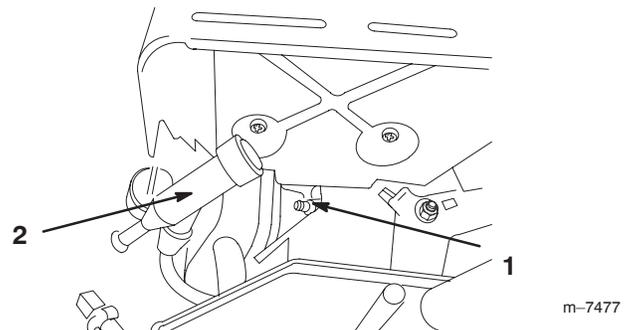

Figure 49
3. Pull the wire off of the spark plug (Fig. 49).
3. Push the wire onto the spark plug (Fig. 49).